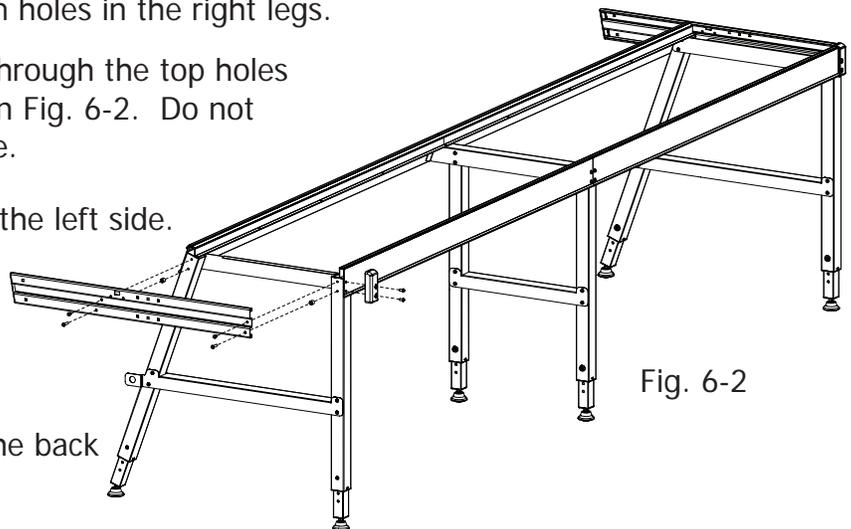

Fig. 6-2
⚙️ **6-3:** Screw two (2) M6 x 12mm SBHCS through the top holes of the right frame end and leg, as show in Fig. 6-2. Do not completely tighten the screws at this time.